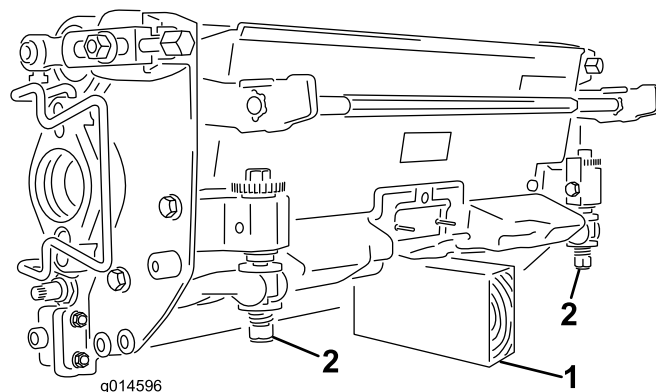

Figure 44
**Important:** Whenever you need to tip the cutting unit, prop up the rear of the cutting unit to ensure that the nuts on the bedbar adjusting screws are not resting on the work surface (Figure 44).